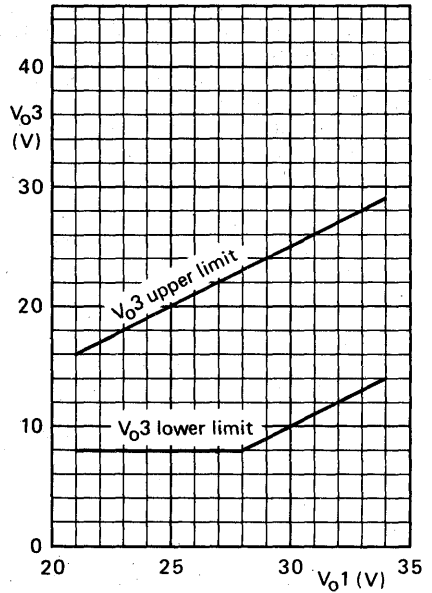

Fig. 7 Range of values for  $V_{O3}$ .
12.  $V_{O3}$  depends on the value of  $V_{O1}$  (see Fig. 7); adjustable with RA3.